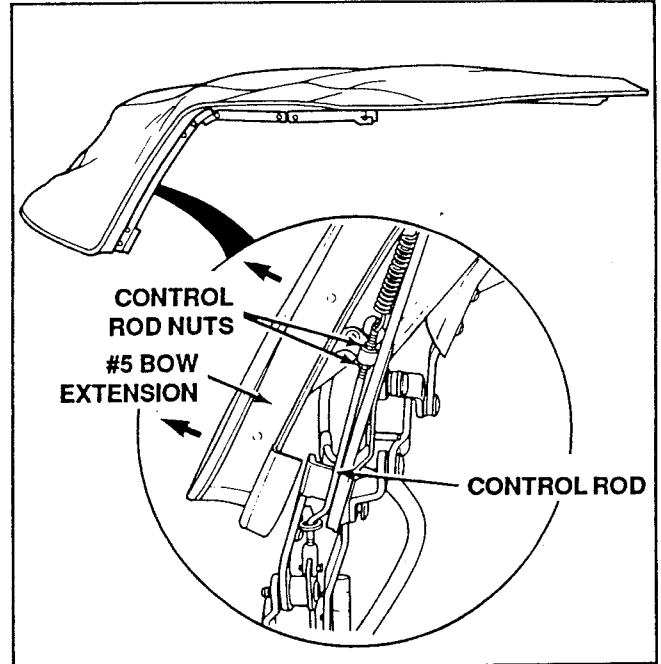

Figure 48. Adjust Control Rod
2. Rotate the nuts until the B-pillar and the 5-bow extension are as far out as possible (Fig. 48).